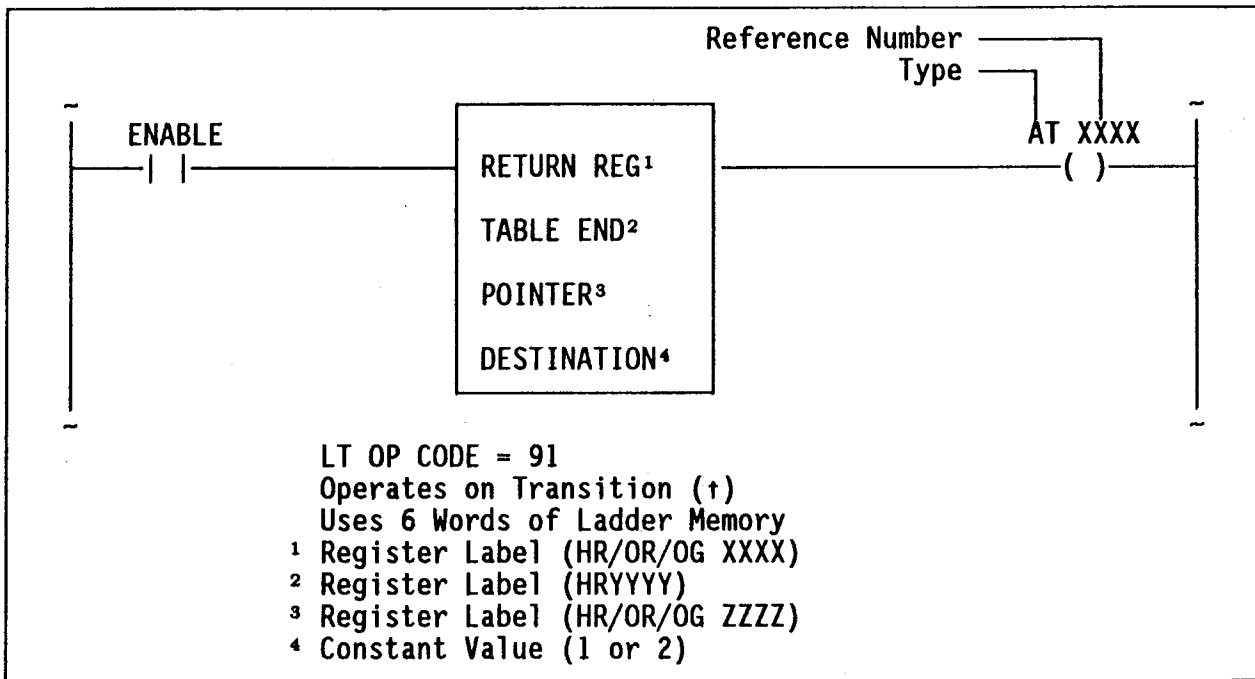

Figure 1. ASCII Transmit (AT)
The ASCII Transmit (AT) function allows American National Standard Code for information Interchange (ASCII) coded alphanumeric messages to be processed. These messages are transmitted from the processor directly to a printer or other suitable RS-232C compatible device that is capable of translating ASCII codes. If the processor is equipped with two ports, the function permits port selection. ASCII function symbology is shown in Figure 1.